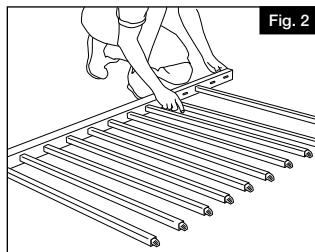

Fig. 2
- a. Cut Transform top & bottom rails and beams to proper length and assemble panel with balusters (Fig. 2) to form your gate section.